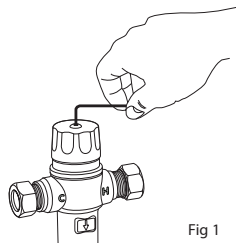

Fig 1
1. Remove the screw which secures the cap by using the allen key provided then lift the cap off (Fig 1)